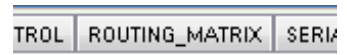

Figure 39. Selecting the **ROUTING_MATRIX** Tab
3. Click the **ROUTING_MATRIX** tab (see Figure 39) to allow the configuration of the routing matrix.